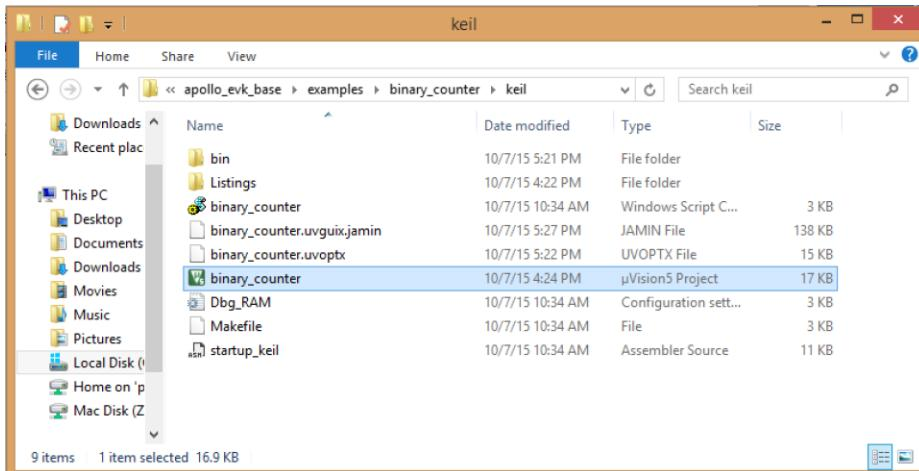

Figure 42: Keil Project folder for example "binary\_counter"
- Double click on the uVision Project file as shown in Figure 42 to open this projects using Keil